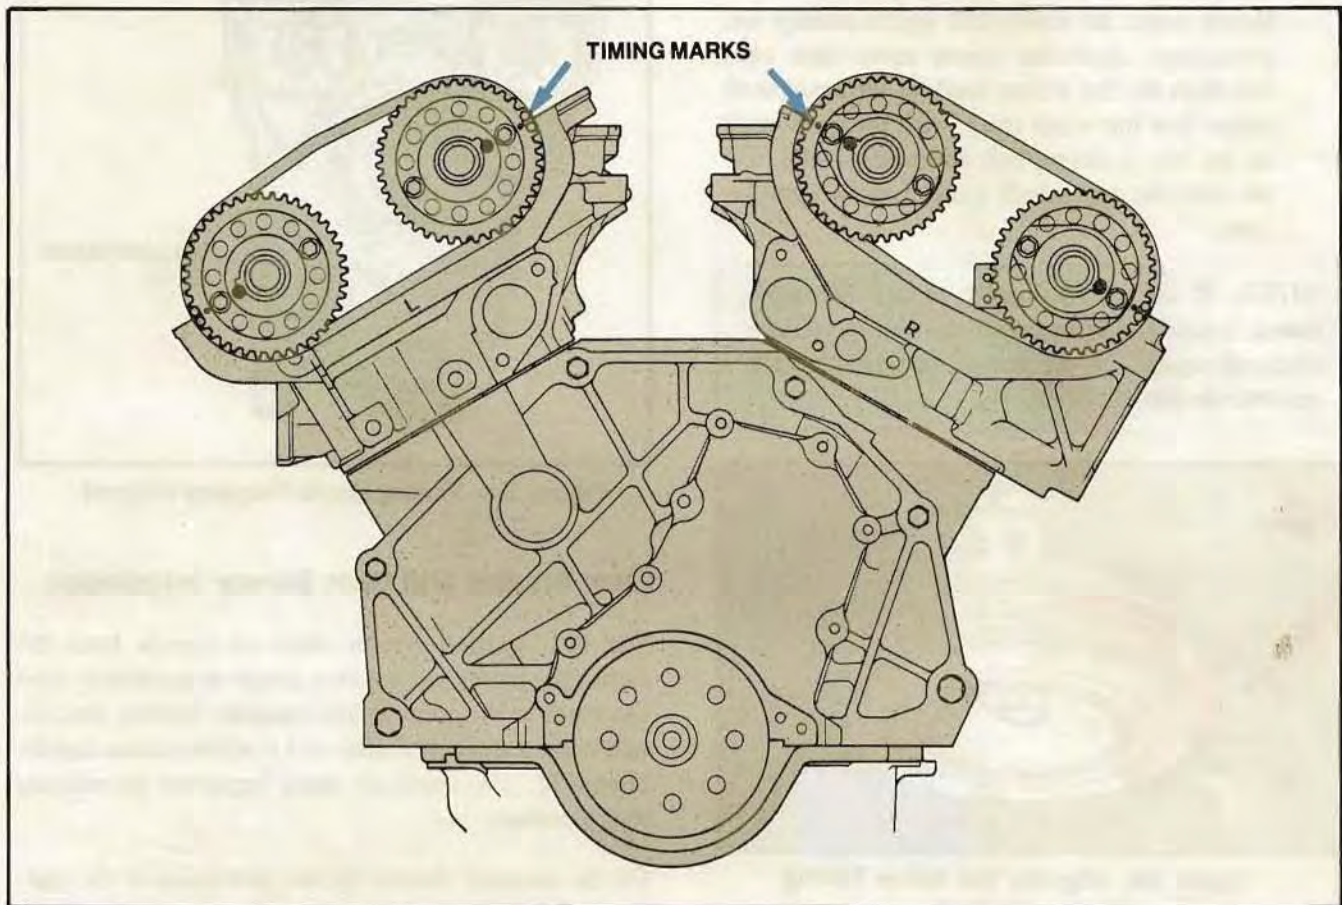

Figure 132. Timing Marks Properly Aligned
- If the camshafts are properly aligned the timing marks on the cam sprockets will be positioned as shown (Fig. 132).